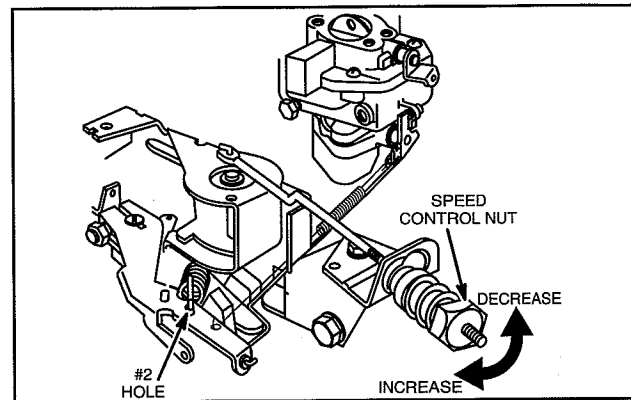

Fig. 27 – Adjusting Governed Idle
4. Engage fixed speed adjustable control nut and adjust to **Regulated No Load RPM** for the type of generator listed in Table 1, Fig. 27.